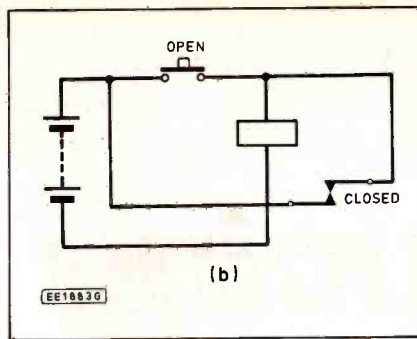

Fig. 12.3. Relay latch circuit
In digital electronics we use **feedback** to store events. Feedback is not entirely new to you (although you may not know it) because we used it in the experimental relay circuit of Part 6 (reproduced here as Fig. 12.3) to latch the relay contacts closed after the release of the push button switch. This circuit can be regarded as a basic memory device; the output (the closed relay contacts) is fed back to
at either side of the debounce circuit. As soon as the input switch changes state the output of the second inverter (2) feeds back to lock it in the state according to that switch position (the feedback acts like the relay circuit of Fig. 12.3), thus ignoring the spurious signals from the switch contacts. R-S flip-flops can also be used for